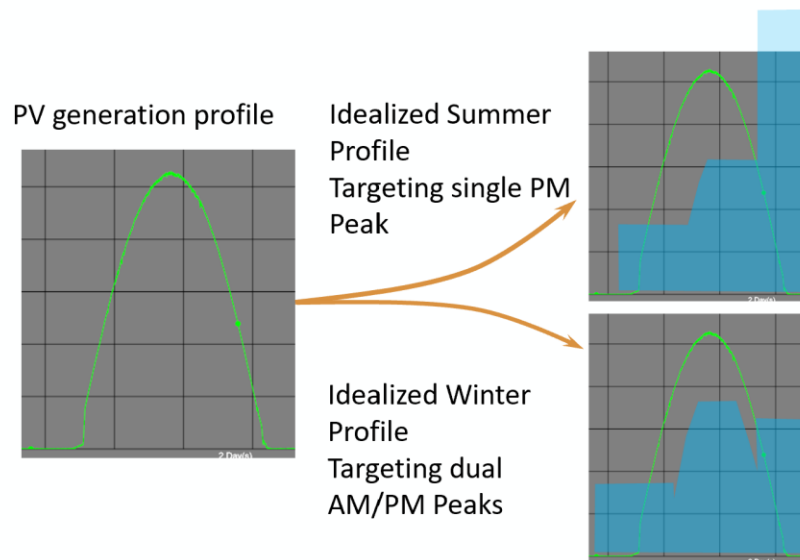

Figure 1. Combining PV plan with battery storage with idealized PV generation.
A schematic for combining a photovoltaic plant (PV) combined with battery storage for a utility operation in New Mexico is shown in Figure 1. The goal is to store excess energy from renewables to achieve firm (reliable) energy output at a later time. The stored energy from PV output (the area under the green curve) can be used to provide firm energy output in the morning and evening (blue shaded rectangles). The goal is a perfectly level stored-energy curve. This would indicate a “firm dispatchable resource” meaning that the energy available meets specified criteria and will be reliably available to be dispatched to the grid when needed.
For this competition, teams will be challenged to use a Fuel Cell plus appropriate medium (water, hydrogen) INSTEAD of battery storage. Additionally, teams will be challenged to design and implement ant additional circuits and/or algorithms to make the energy output from a combination of PV+Fuel Cell as “flat” as possible, similar to the illustration on figures 1 and 2.